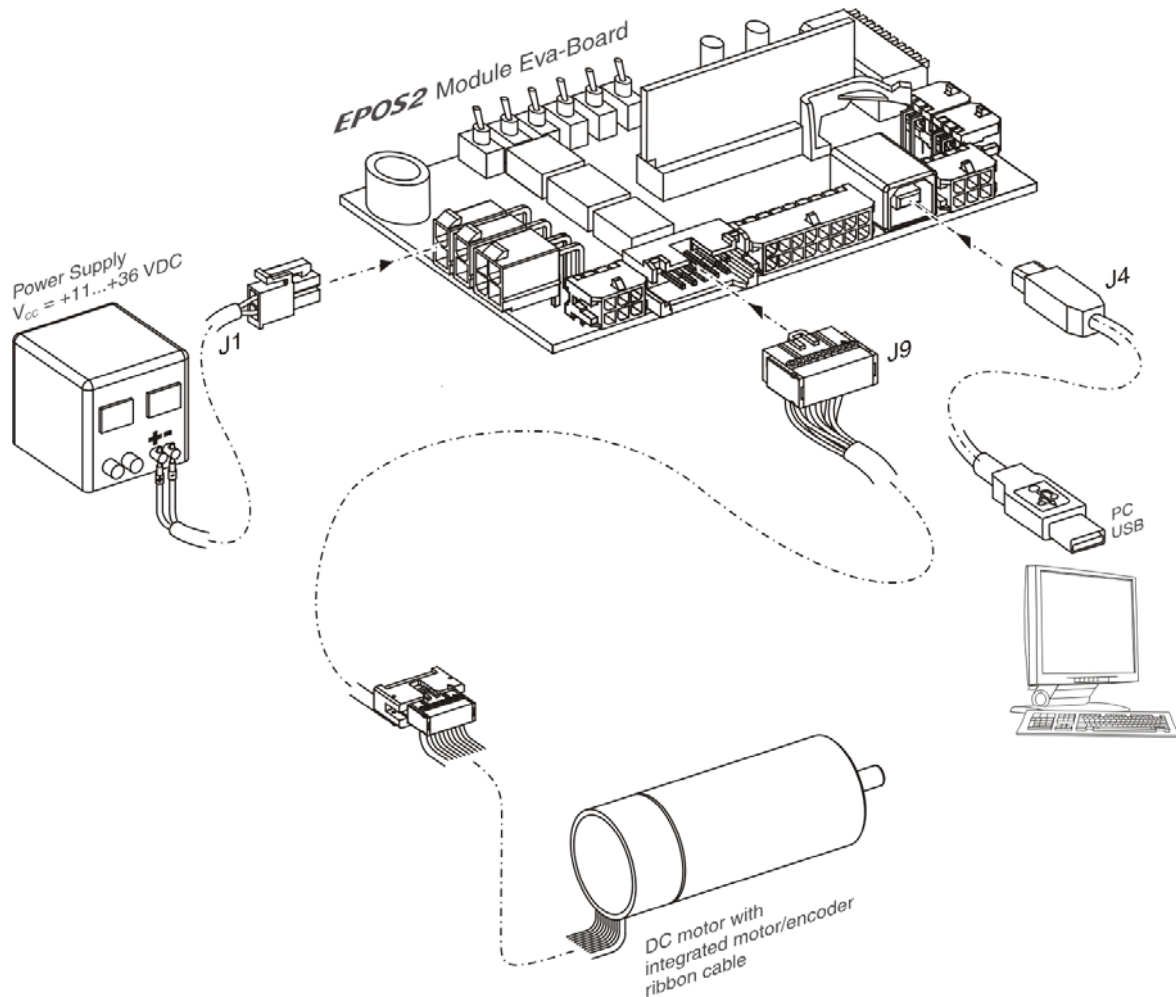

Figure 3-6 Minimum Wiring: maxon DC motor with integrated Motor/Encoder Ribbon Cable
- 4) Connect maxon cable assemblies (→Table 3-8 and Figure 3-6).